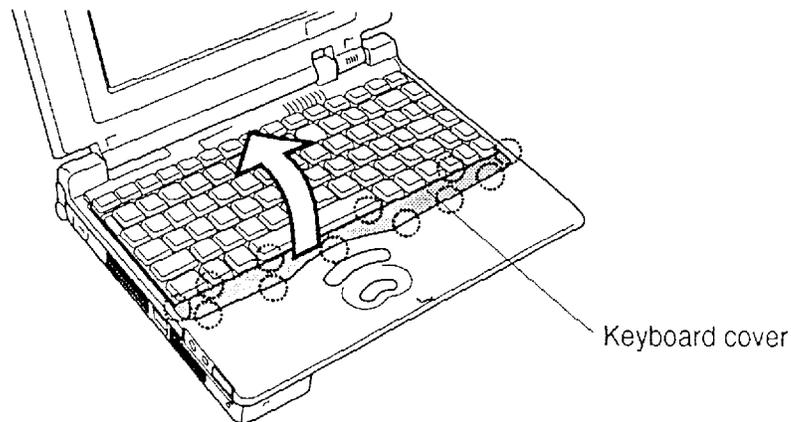

Figure 4-9 Unlatching the keyboard cover
To remove the 610CT keyboard, follow the steps below and refer to figures 4-9 through 4-12.
4. Use a thin metal tool to unlatch **12 latches** that secure the **keyboard cover** (figure 4-9).
To install the 610CT keyboard, follow the steps below and refer to figures 4-9 through 4-12.
4. Seat the **keyboard cover** and press firmly to secure the **twelve latches** (figure 4-9).